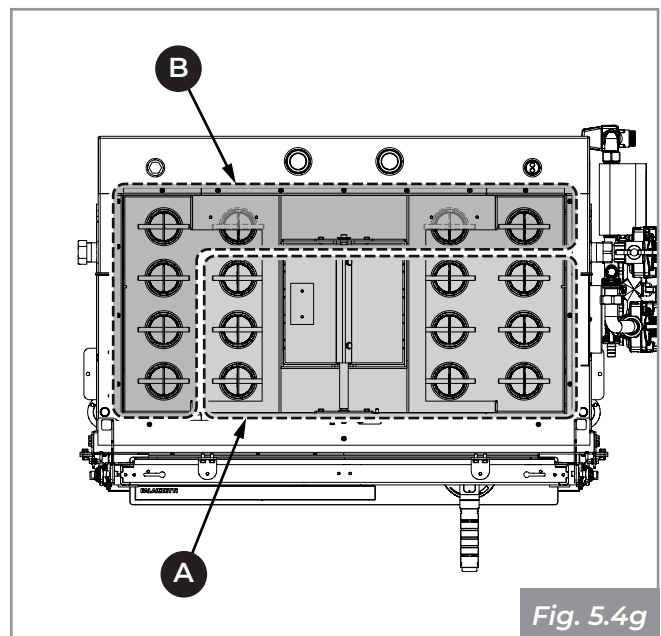

Fig. 5.4g
- Slide out all the turbulators from the top (**A - Fig. 5.4g**), except for the four rear ones and the three on the side opposite the hydraulic system, which must be removed from below (**B - Fig. 5.4g**);